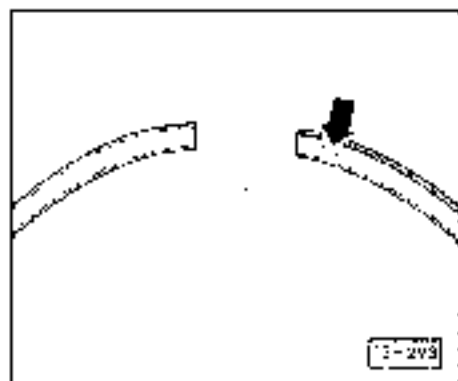

Fig. 1. Piston ring, installation position
Height of pins = 35 ± 0.05 mm (Fig. 1)
- Remove pins on Fig. 1
- TMP spindle sleeve is not to be used (Fig. 1)